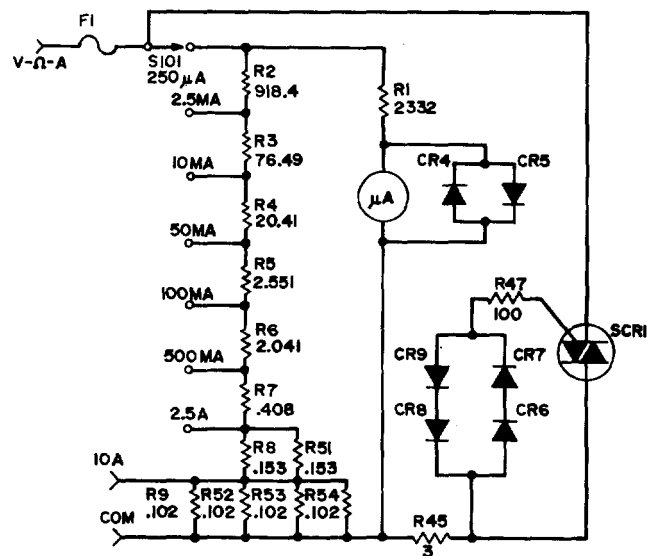

Figure 4-5. Simplified direct current circuit.
a. Circuit Description. Figure 4-5 illustrates a simplified schematic of the direct current measurement circuit. Current flows through series resistor R1 and the meter, and shunt resistors (as selected by the range switch) R2 through R9. The shunting circuitry is designed so that 50 microamperes flows through R1 and the meter when a full scale current value is applied to the appropriate range. The remainder flows through the selected shunt resistors.